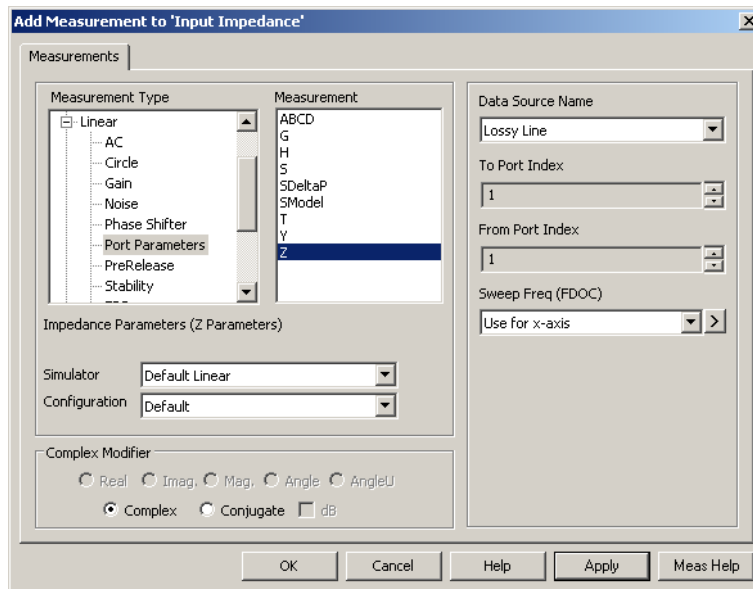

Figure 6.5: Chart 4 : Add Measurement Dialogue Box for Input Impedance (Smith Chart)
- Change your measurement dialogue box to match figure 6.5.